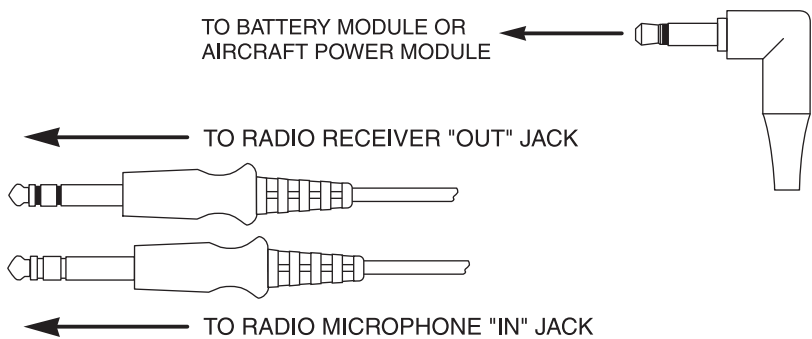

FIGURE 1. Connections
1. Connect the **headset** as shown in Figure 1.